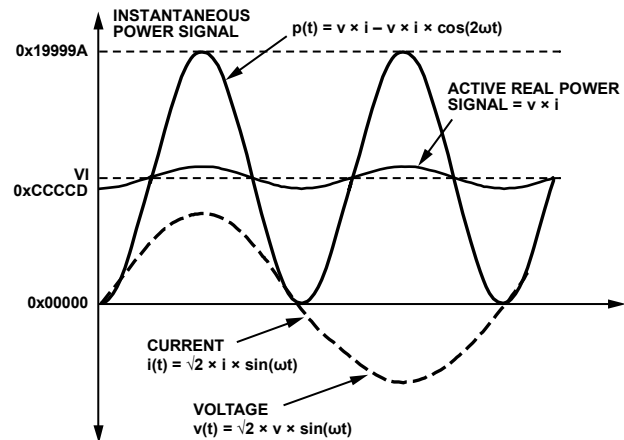

Figure 50. Active Power Calculation
Note that the active power is equal to the dc component of the instantaneous power signal $p(t)$ in Equation 11, that is, VI . This is the relationship used to calculate active power in the ADE7566/ADE7569. The instantaneous power signal $p(t)$ is generated by multiplying the current and voltage signals. The dc component of the instantaneous power signal is then extracted by LPF2 (low-pass filter) to obtain the active power information. This process is illustrated in Figure 50.
The ADE7566/ADE7569 also incorporate an active power offset register (WATTOS[15:0]). It is a signed, twos complement, 16-bit register that can be used to remove offsets in the active power calculation (see Figure 50). An offset can exist in the power calculation due to crosstalk between channels on the PCB or in the IC itself. The offset calibration allows the contents of the
As mentioned in the Active Energy Calculation section, the discrete time sample period (T) for the accumulation register is $1.22 \mu\text{s}$ ($5/\text{CLKIN}$). With full-scale sinusoidal signals on the analog inputs and the WGAIN register set to 0x000, the average word value from each LPF2 is 0xCCCCD (see Figure 50). The maximum positive value that can be stored in the internal 49-bit register is 2^{48} (or 0xFFFF,FFFF,FFFF) before it overflows. The integration time under these conditions when WDIV = 0 is calculated in the following equation: